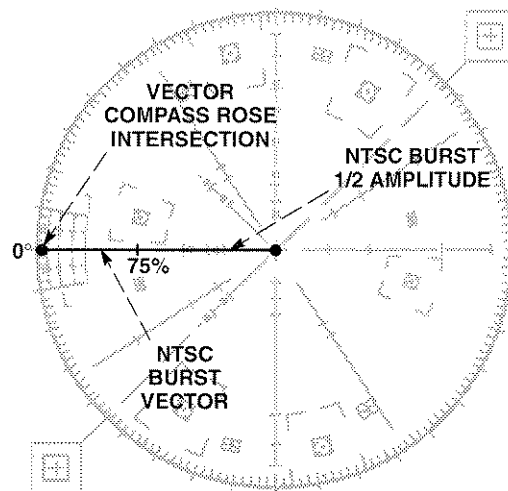

Figure 5-18: Adjustment point for auto phase lock
- g. Set the VARIABLE GAIN to place the burst vector tip on the compass rose. See Figure 5-18.